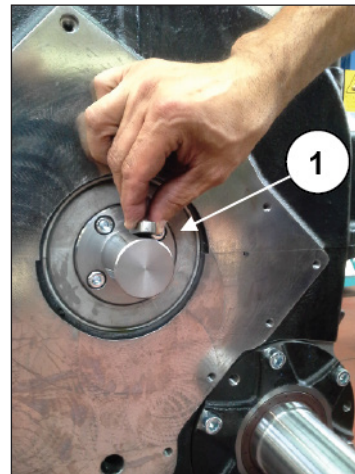

Fig. 124
Fit the 2 lube pump body locating bushes (pos. ①, Fig. 124).